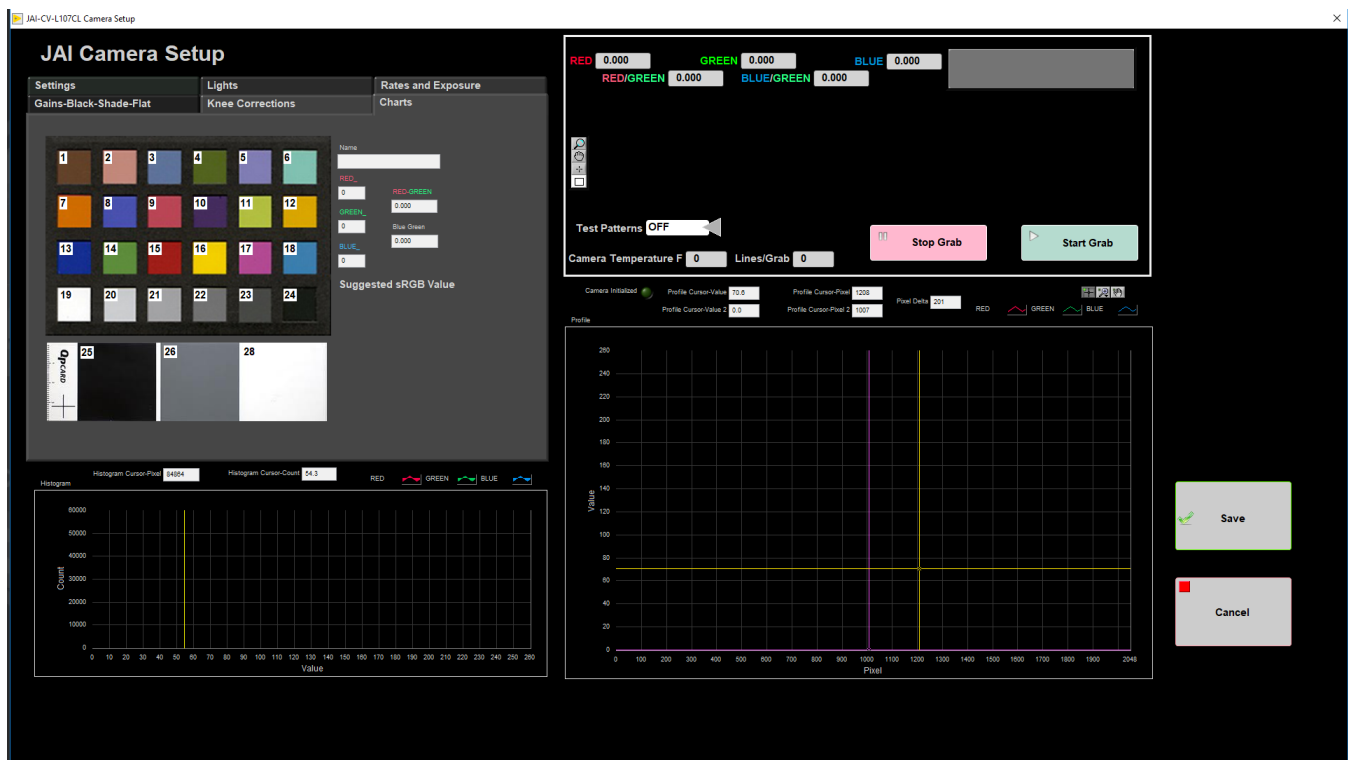

Figure 26. Charts Window
- Click on the **Charts** tab (Figure 26). Click on a color box and the manufacturer provided red, green, and blue values will populate. This provides a way to compare expected values with measured values and allows the user to make additional adjustments.